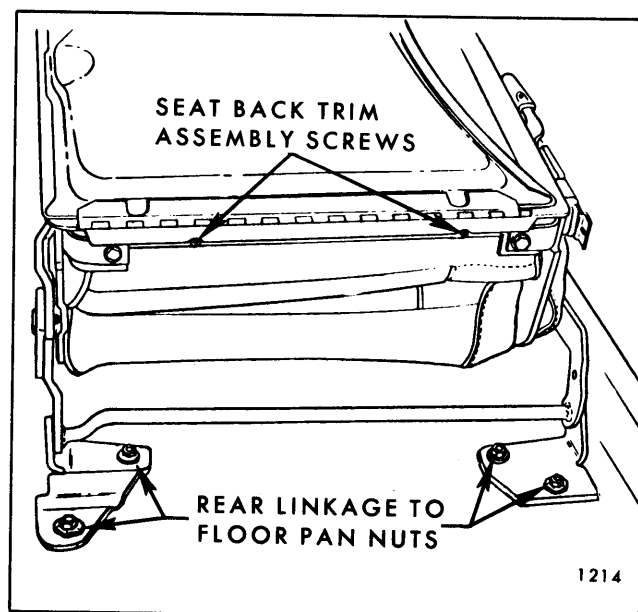

Fig. 15-74—Folding Second Seat Rear Linkage
1. Remove rear door sill plate and turn back floor carpeting sufficiently to gain access to nuts securing folding seat front and rear linkage to floor pan (Figs. 15-74 and 15-75).
3. Remove nut and washer assemblies securing front and rear linkage to floor pan (Figs. 15-74 and 15-75); then, remove seat assembly from body.
2. Remove seat back trim assembly attaching screws. (See Fig. 15-74.)